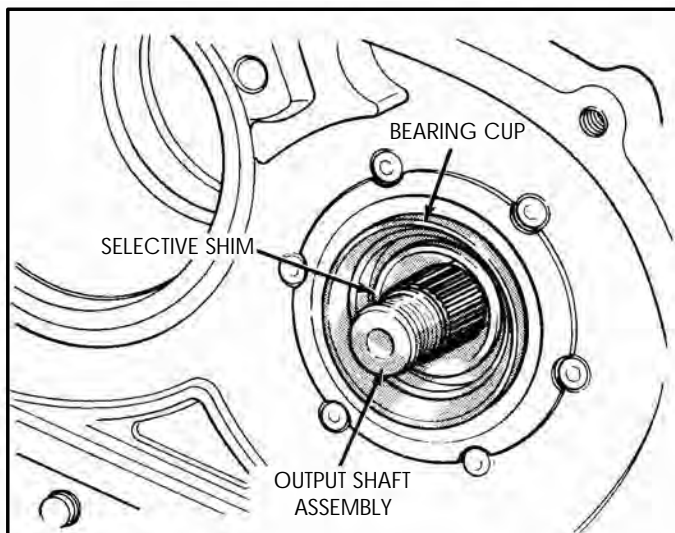

Figure 175
2. Install the output shaft/rear planetary ring gear and bearing assembly into the case and hold in position, as shown in Figure 175.